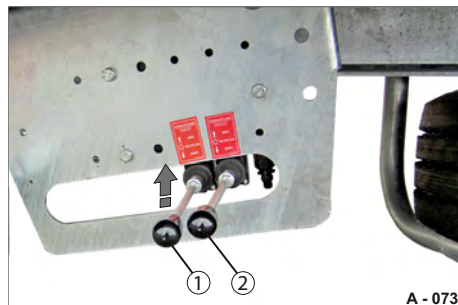

Fig. 110 Ramps, raising
- ▶ Operate the corresponding lever (Fig. 110/1 or Fig. 110/2) upwards. The ramps are raised.